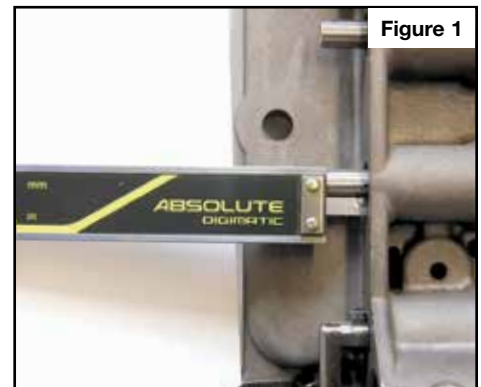

Figure 1
- Measure and record adjustment plug-to-casting distance, then remove and save OE adjustment plug (**Figure 1**).